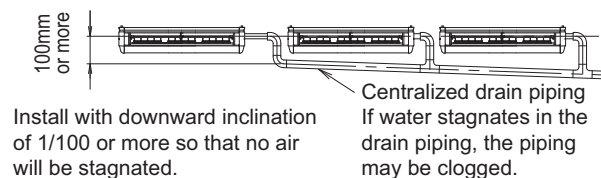

Fig. 28
To avoid the attached drain hose (1) getting excessive force, do not bend nor twist it. (It may cause water leakage.) When conducting the centralized drain piping, follow the instructions in Fig. 28. For the diameter of the centralized drain piping, select the diameter matching the capacity of the indoor unit to be connected. (Refer to technical guide-book.).